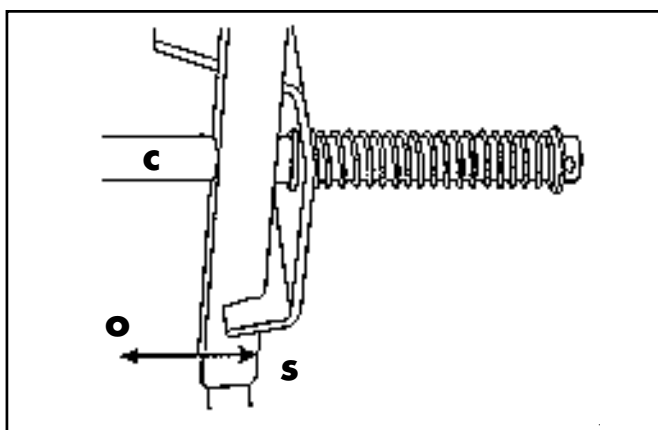
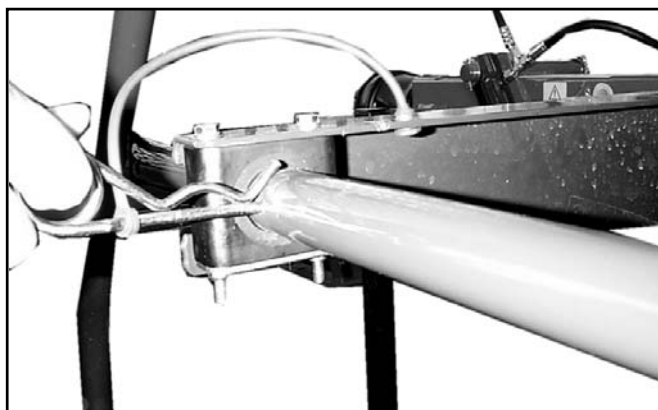

Figure 3-10
Figure 3-11
- Pull clip pin! (Figure 3-11)
- Fold in both protective yokes (c). To this end, pull the protective yokes (c) forward (o), and fold them upwards until they lock into the guiding (s) (figure 3-10) and secure with clip pin (figure 3-11).